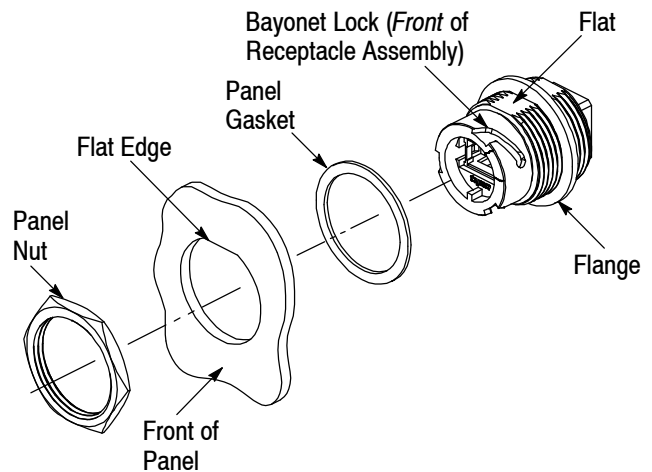

Figure 8
2. Slide the panel gasket over the front (end with bayonet lock) of the receptacle assembly for rear panel mount or over the back of the receptacle assembly for front panel mount until it is flat against the flange. See Figure 8.